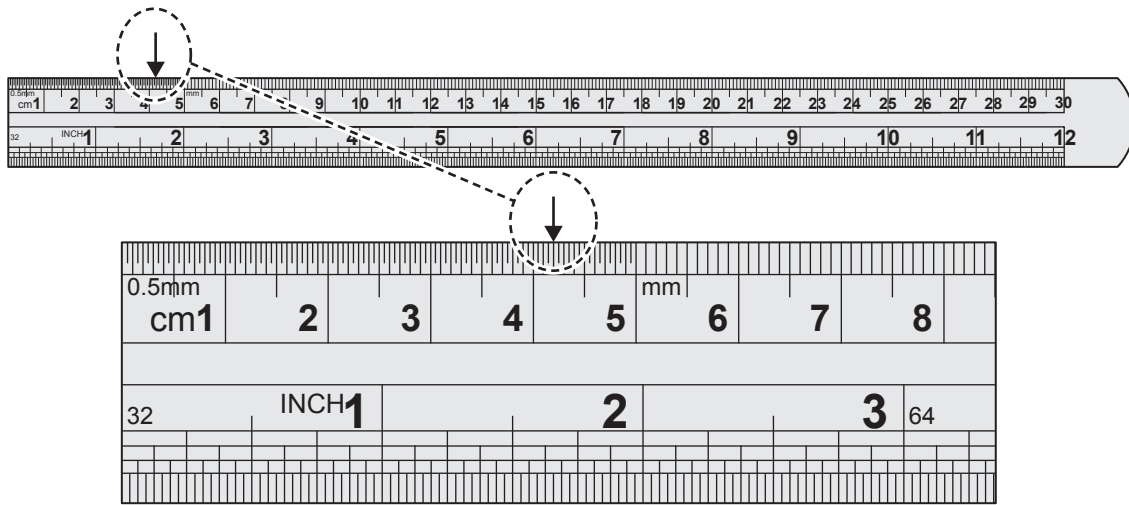

Figure 12
- b. The width of the backing plate of the hook rack was measured with a rule, as shown in Figure 12.